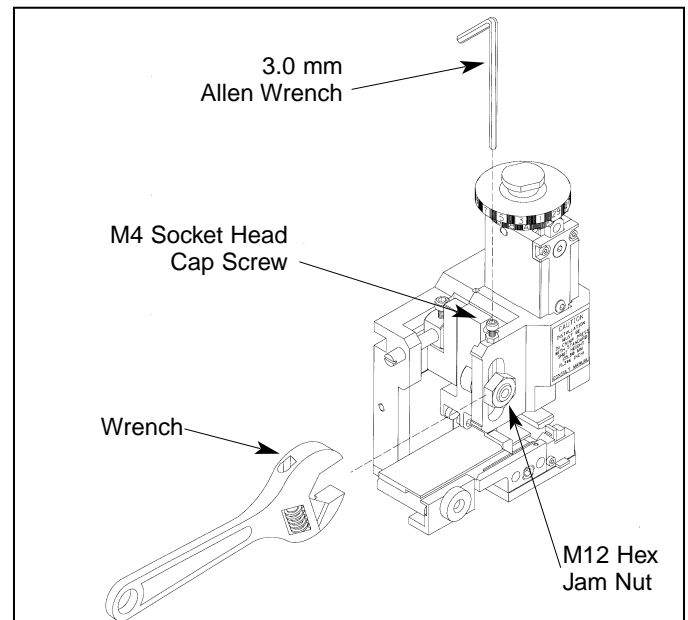

Figure 2.3.6.5 Back Stroke Feed Positioning
- 2.3.6.3 Loosen the M12 hex jam nut to permit up and down movement of the hinge bushing. (Refer to Fig. 2.3.6.5 Back Stroke Feed Positioning)
- 2.3.6.5 Adjust the position of the hinge bushing to achieve the correct back stroke location. Lowering the hinge bushing in the support slot will shorten the stroke; raising the hinge bushing will lengthen the feed stroke. (Refer to Fig. 2.3.6.5 Back Stroke Feed Positioning)